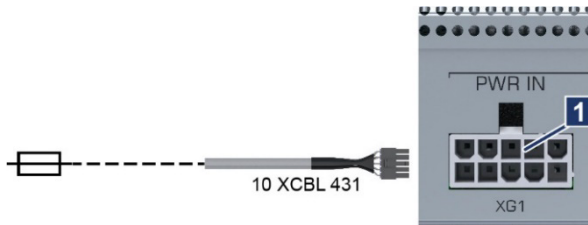

Fig. 6-9: Power supply with pre-fuse for flashing warning beacon connection to XBC
2. Plug the power supply cable 10 XCBL 431 into terminal *XG1 (PWR IN)* on the beacon control module (→ Fig. 6-9/1) and connect the flying leads to the terminal points provided (→ chapter 6.3.1, page 46). Ensure that the circuit is protected against overload by a suitable pre-fuse (→ chapter 4.3, page 41, external fuse).